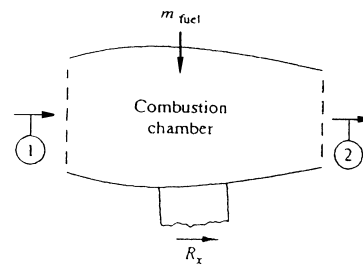

Fig. P3.50
3.50 The jet engine in Fig. P3.50 admits air at 20°C and 1 atm at (1), where $A_1 = 0.5 \text{ m}^2$ and $V_1 = 250 \text{ m/s}$. The fuel-air ratio is 1:30. The air leaves section (2) at 1 atm, $V_2 = 900 \text{ m/s}$, and $A_2 = 0.4 \text{ m}^2$. Compute the test stand support reaction R_x needed.